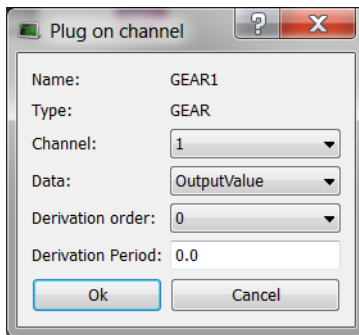

Figure 4-79: Plug on a channel dialog box - Parameters
5. Click the Data drop-down arrow and select the relevant option. (Figure 4-79)